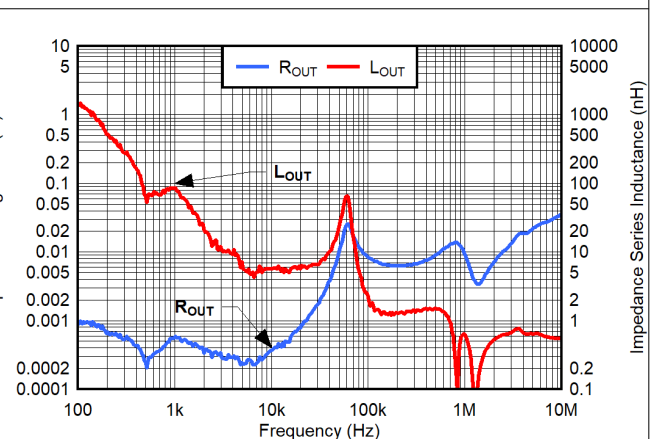

Figure 7-17. V_{IN} = 0.9V, V_{BIAS} = 3V, V_{OUT} = 0.5V, CP_EN = 0, I_{OUT} = 4.6A
- Figure 7-17 is provided for the 0.9V_{IN}, 0.5V_{OUT}, and I_{OUT} = 4.6A conditions